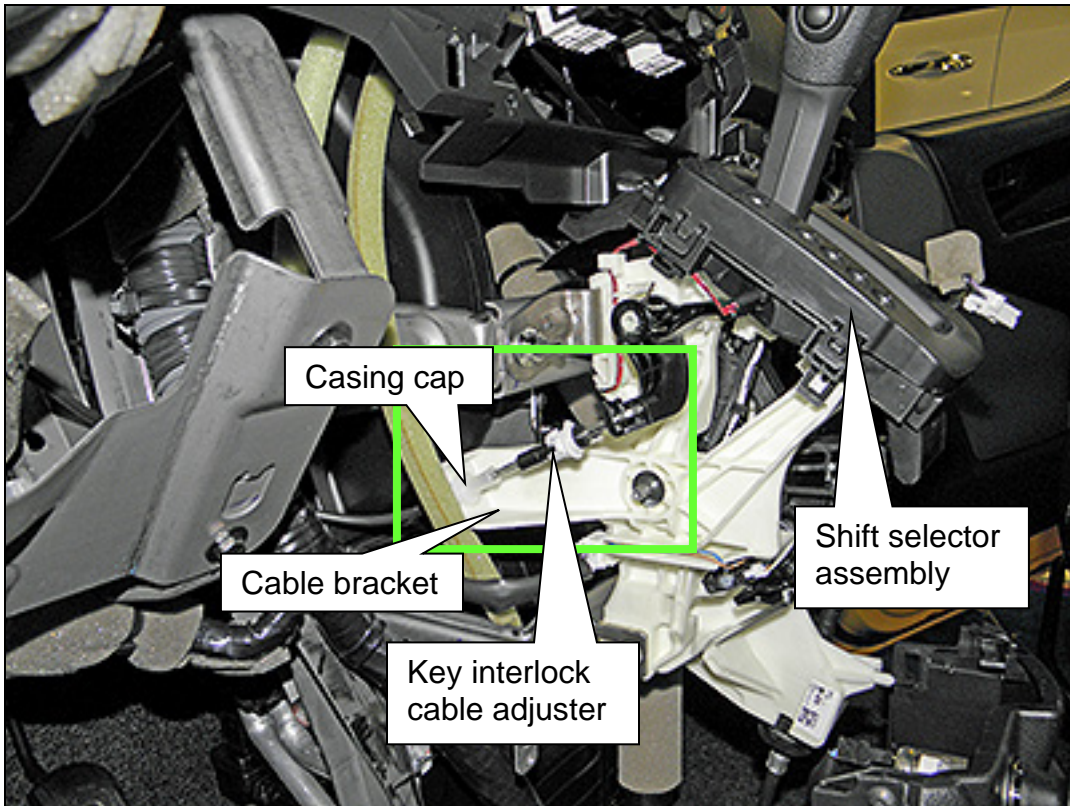
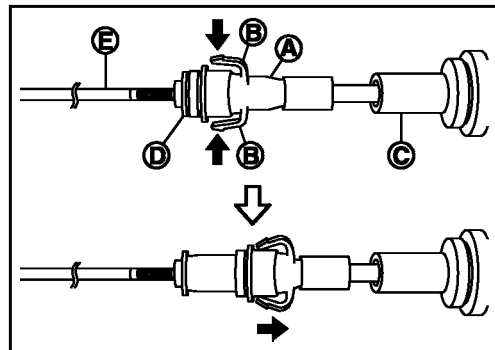

Figure 25
Figure 26
19. Unlock key interlock cable adjuster (Figure 25 and Figure 26):
- a. Press the pawls (B) of the key interlock cable slider (A),
- b. while sliding it in the direction of the casing cap (C),
- c. and then separate the adjust holder (D) and slider.
- Confirm that the casing cap is fastened to the cable bracket (Figure 25).